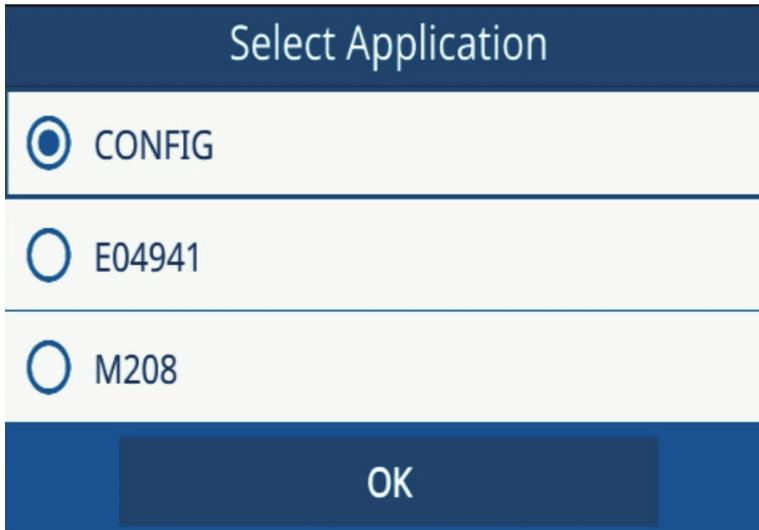

Figure 7-8 Select Application Window
3. Select the application from the pop-up window and tap **OK** (see Figure 7-8 on page 68).